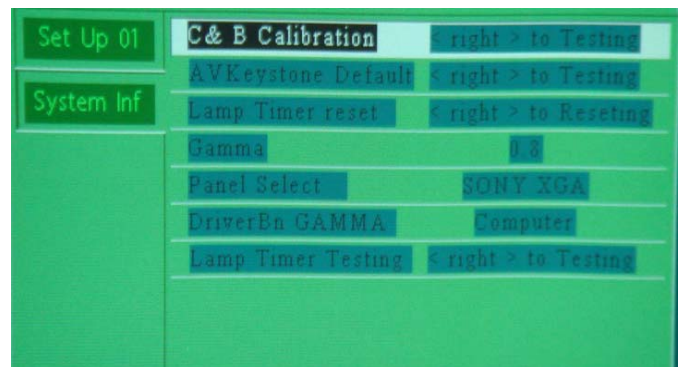

fig 9
e. Select "C & B Calibration" fig 9